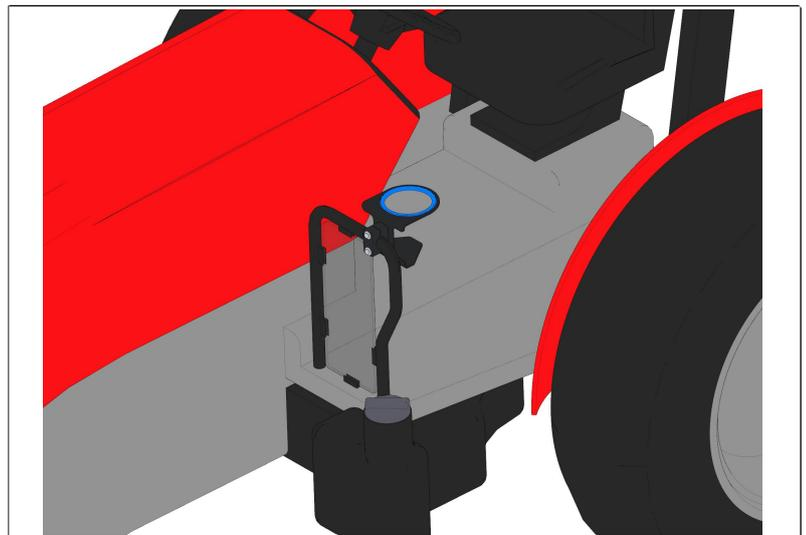

Fig. 2
2. For use with larger beverage containers, install the supplied rubber edge liner on the inside of the cup holder bracket as shown in figure 2.